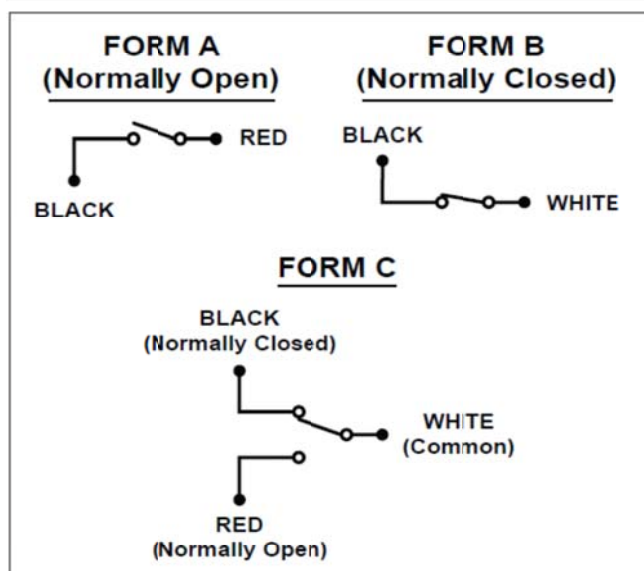

Figure 20. Form A, B & C
2. Flow-Alert reed switches are available in three configurations: Form A (normally open), Form B (normally closed), and Form C (SPDT). Wire color codes and switch configurations are shown in Figure 20.